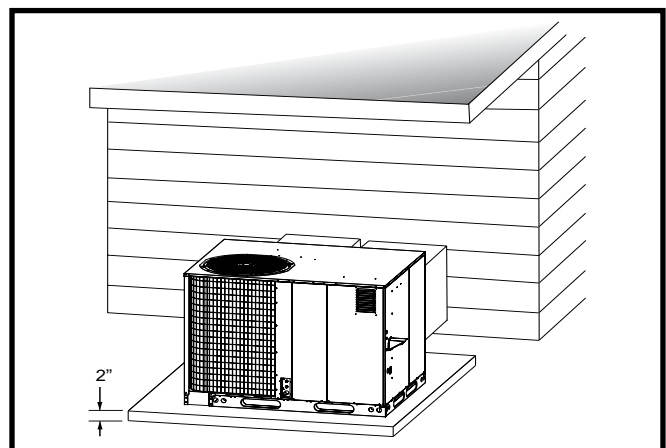

Figure 3. Ground Level Installation
- A suitable mounting pad (Figure 3) must be provided and be separate from the building foundation. The pad must be level to ensure proper condensate disposal and strong enough to support the unit's weight. The slab height must be a minimum of 2" (5cm) above grade and with adequate drainage.